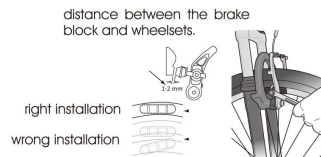

Fig.2
- 1.V-type brake block must be kept parallel with the rim, keeping the 1-2mm gap after adjustment and cannot be skewed. (Fig. 2)